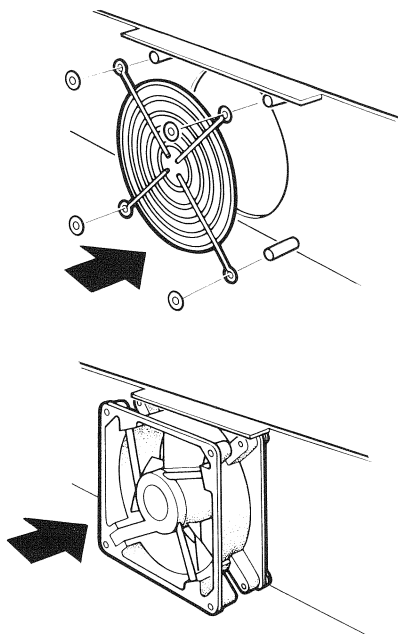

Figure 8-26 Rear Fan Installation
1. Relocate the four screws and place the fan guard on the screws. Make sure the cross members of the fan guard face the inside of the unit (Figure 8-26).
2. Place the spacers on the screws and secure the fan. Make sure the fan is oriented as shown in Figure 8-26. The airflow must be away from the power supply.